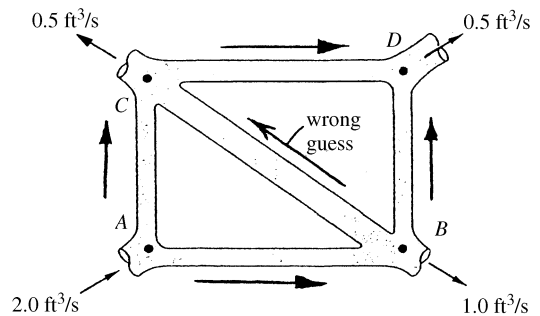

Fig. P6.130
**6.130** In Fig. P6.130 lengths *AB* and *BD* are 2000 and 1500 ft, respectively. The friction factor is 0.022 everywhere, and  $p_A = 90 \text{ lbf/in}^2$  gage. All pipes have a diameter of 6 in. For water at 20°C, determine the flow rate in all pipes and the pressures at points *B*, *C*, and *D*.